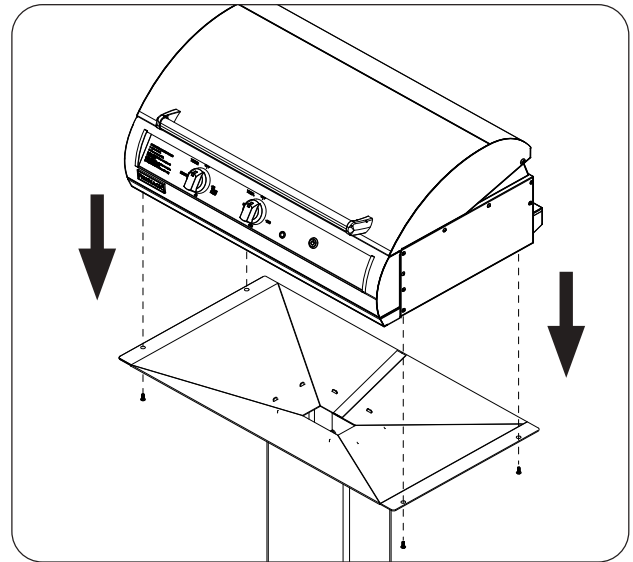

Fig. 24-1 Fasten grill to post base assembly
2. Carefully place and align the electric grill onto the top of the post assembly. Fasten the electric grill to the post base assembly using the 4 included Phillips-head screws. See Fig. 24-1.